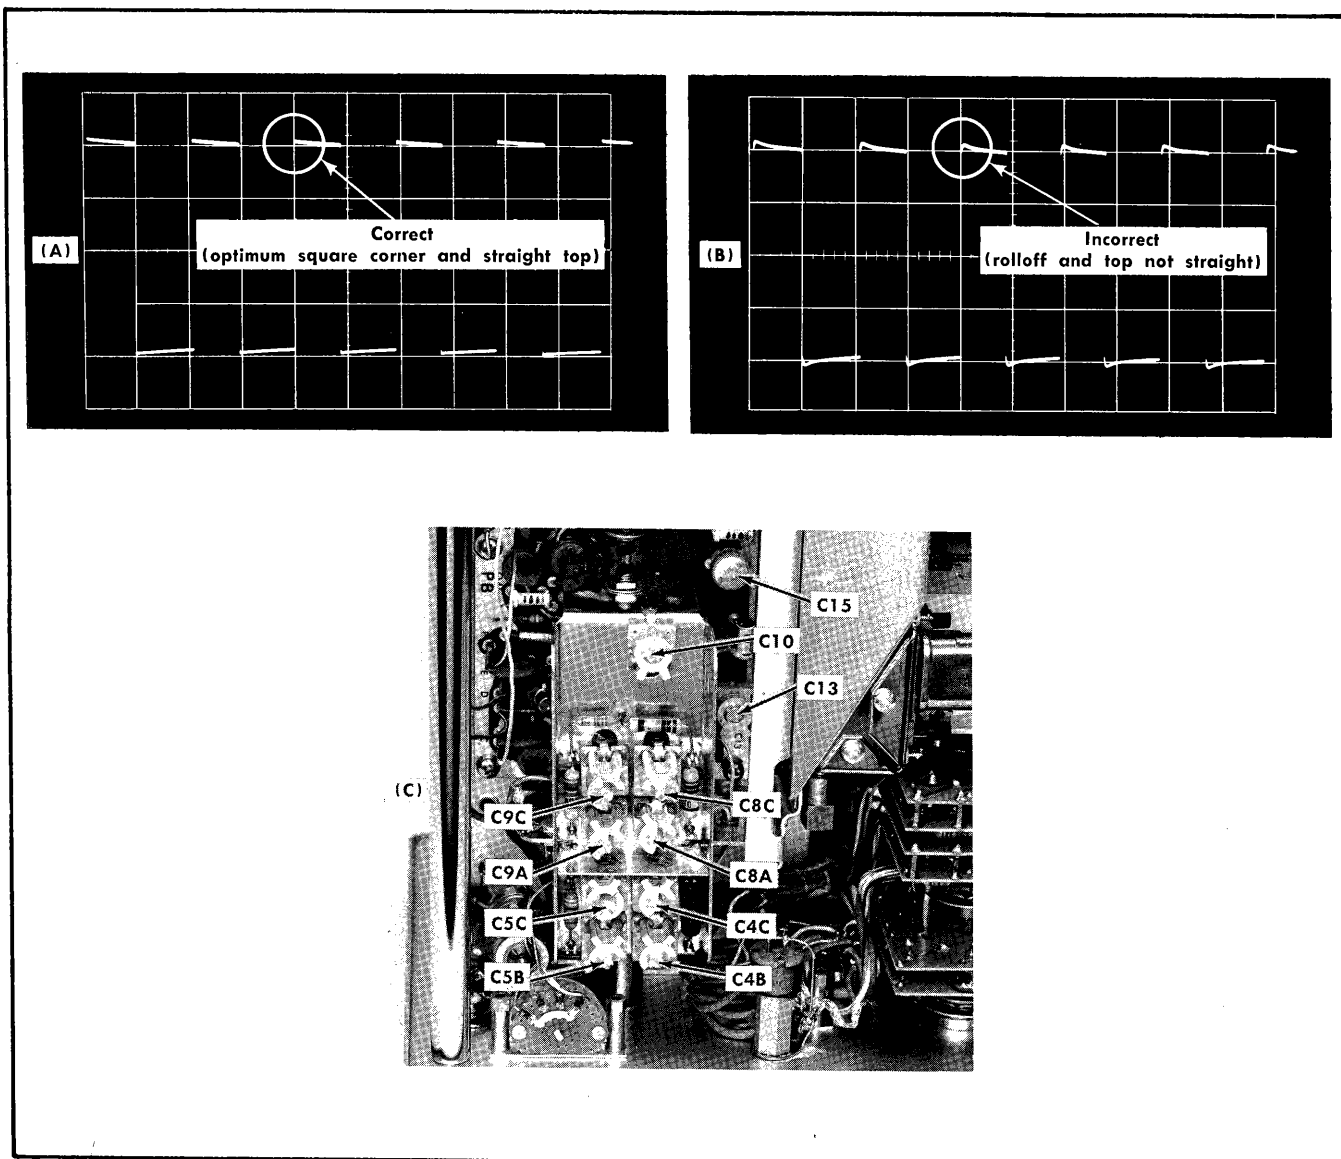

Fig. 6-17. Location of adjustments and typical response for the VOLTS/CM compensation.
e. Push in the V/CM $\div 100$ knob. Adjust C15 and C13 (Fig. 6-17) for optimum square wave response. C15 is adjusted for minimum aberrations and C13 for optimum flat top. See Fig. 6-17A. (The slope on the top and bottom of the square wave will not be flat, because the amplifier stages are not DC coupled).